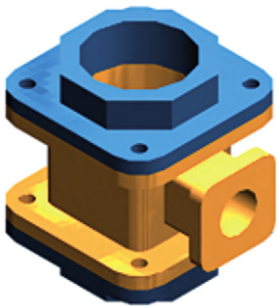

Fig. 17.8 Second example UCS – construction up to step 11 + rendering
11. Turn layer **0** on and move the top into its correct position relative to the main part of the valve. Then with the **Mirror** tool, mirror the top to produce the bottom of the assembly (Fig. 17.8).